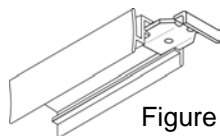

Figure 1B
- F. Locate the Pivot Block Clamp (#8) in the Hardware Bag. Loosen the #10-32 x 7/16" Screw (#8A) in the Pivot Block Clamp (#8) and slide the Pivot Block Clamp (#8) into the Top Track (#2) on the side where the door will pivot (See Figure 1B).